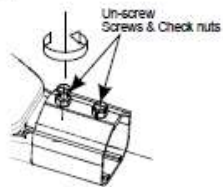

FIG.1
2. Unfasten the Check nuts and loosen the mounting screws to the required height as per the pole size. (Fig 1)